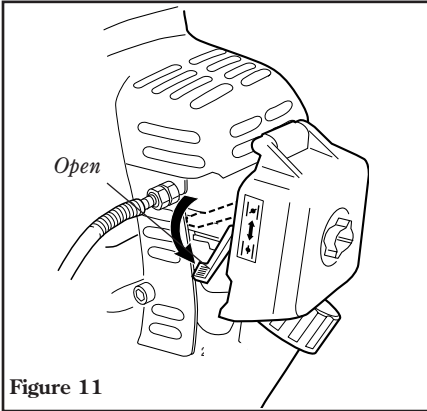

Figure 11
5. When the engine starts, slowly move the choke lever to the "OPEN" position. See Figure 11. (If the engine stops after the initial start, close the choke and restart.)